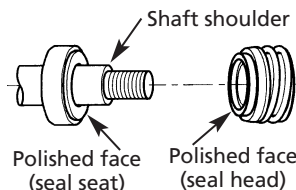

Figure 2 - Seal replacement
Refer to Figures 2 & 3.
**IMPORTANT:** Be sure that shaft shoulder does not damage polished face (see Figure 2).
- Wet inside rubber portion of new seal head with a light coating of soapy water. Slide head onto motor shaft with sealing surface facing seal seat. (See Figure 2).